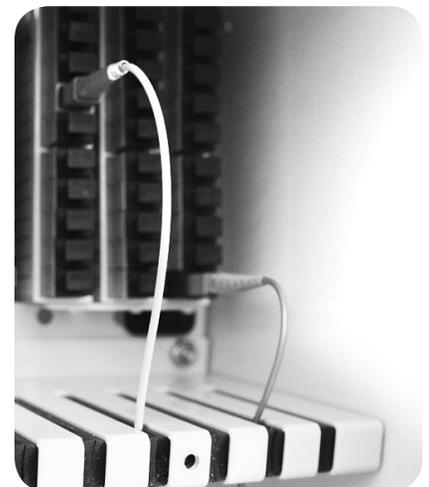

Figure 20
6. Connect the distribution fiber to the appropriate port on the IDEAA Splitter Module. Use the foam fiber relief to route the distribution fiber to the fiber routing section of the IDC, employing a similar technique to that used with the input jumper cable. **(Figure 20)**